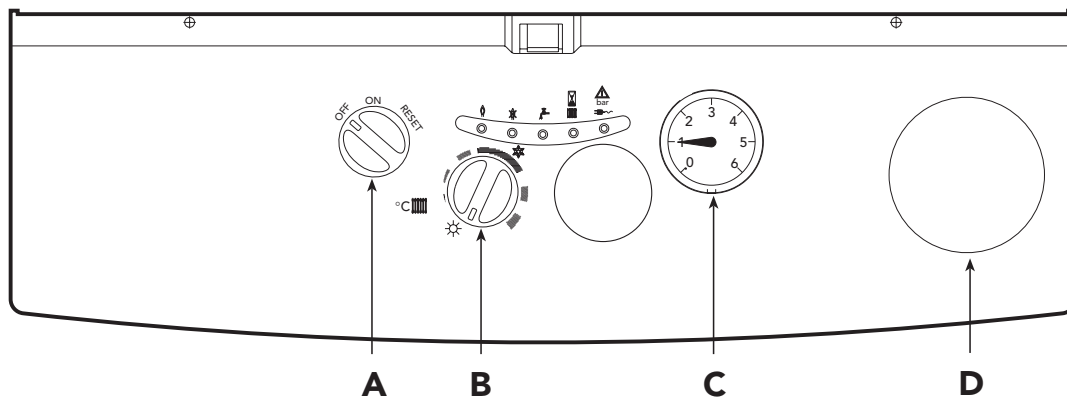

Fig. 41
- Identify electrode from fig. 41